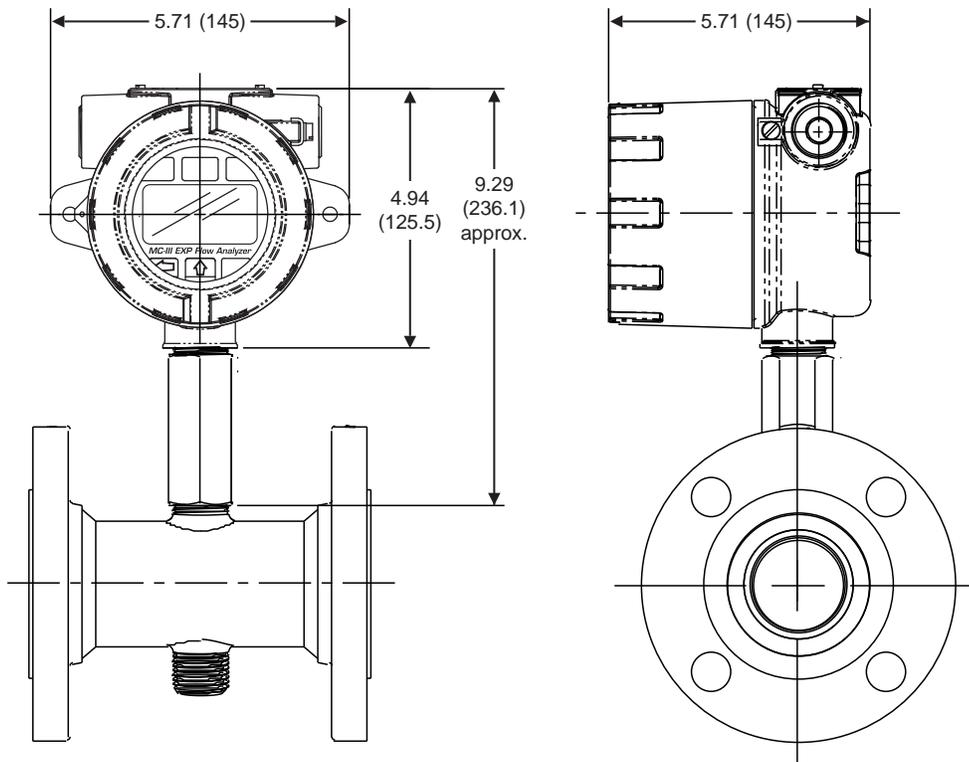

Figure 2.3—Direct mount to a Barton 7000 series flowmeter with 3/4-in. to 3/4-in. standoff tube (ATEX)
- Mount the device to a Barton 7000 Series turbine meter. A 3/4-in. to 3/4-in. stainless steel standoff tube is required (*Figure 2.3, page 15*). (The 3/4-in. to 1-in. reducer supplied with the Barton 7000 Series meter is not required when the standoff tube is used.)